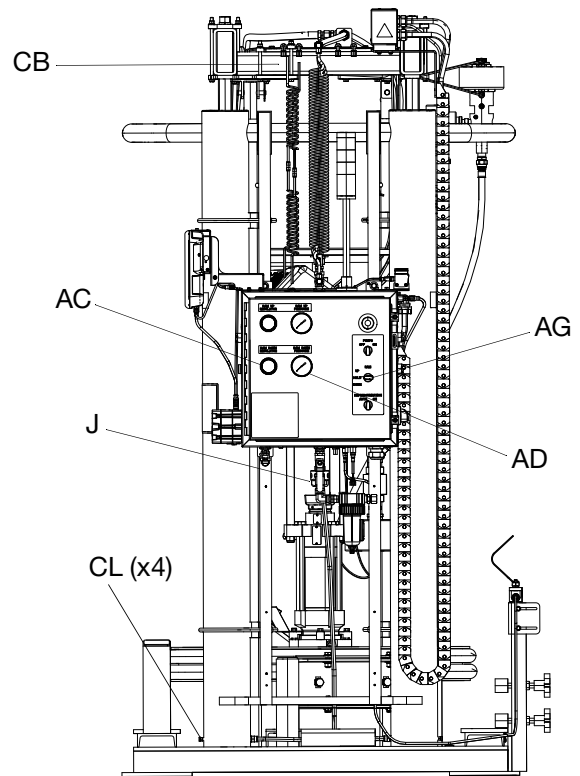

FIG. 24
3. Once both safety hitch pins (1306) are secured, turn off all air to the system by closing the Main Air Shutoff Valve on the header (J) and follow your facility's pre-established lock-out/tag-out procedures. See FIG. 24 on page 47.
- Being careful not to damage the Follower Plate (D) wipers, wipe or scrape any material buildup from the Follower Plate (D) and wipers, and properly dispose of the waste material.
- Apply a generous amount of lubricant to the Follower Plate (D) wipers.